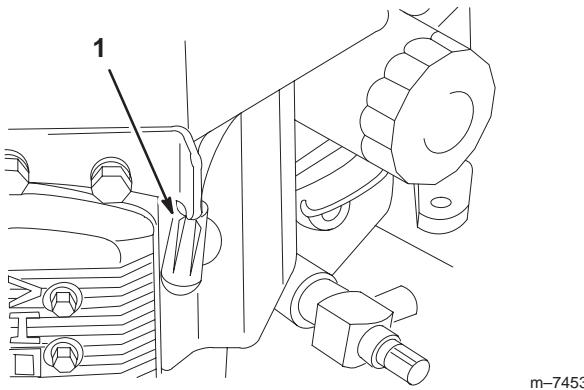

Figure 33
3. Disconnect the wires from the spark plugs (Fig. 33).
3. Connect the wires to the spark plugs (Fig. 33).